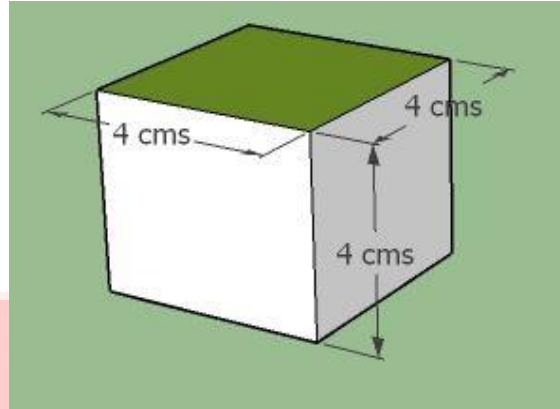

Figure 24: Obstacle
- Prepare four thermocol blocks of dimensions 4cm x 4cm x 4cm (Refer to Figure 24).